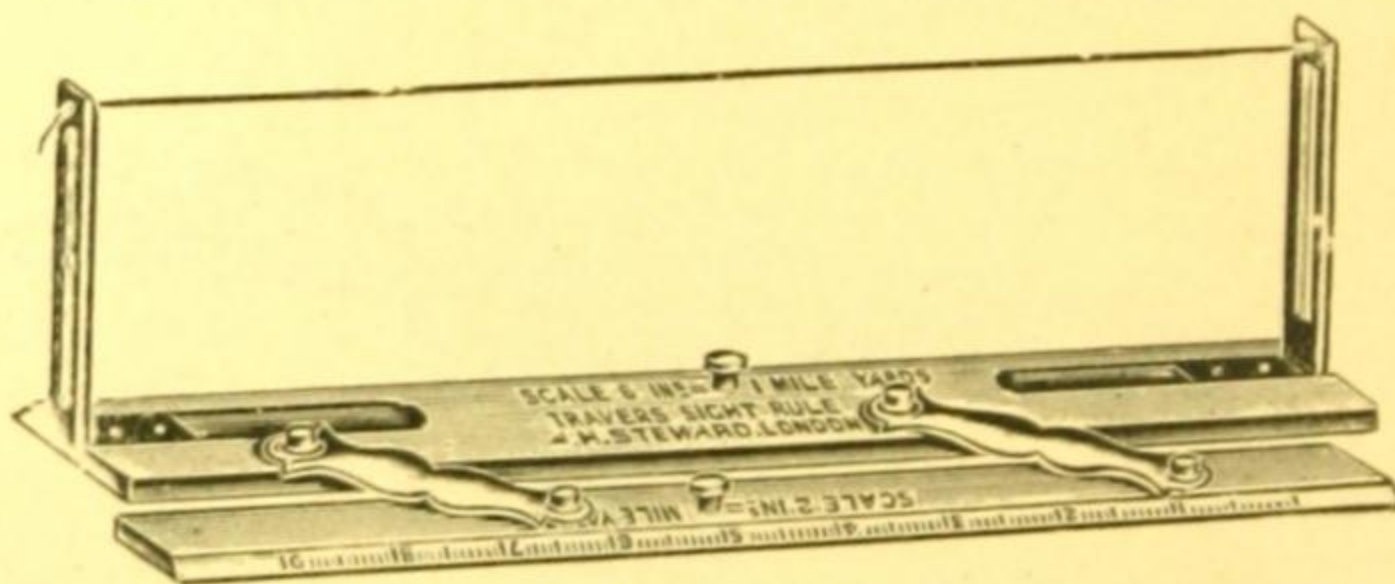

Fig. 36. "Travers" Sight Rule.
- SM 176.—**The "Travers" Sight Rule**, with adjustable parallel bar, doing away with the necessity of placing the ruling edge directly over the station on the paper before taking a sight and avoiding the use of pins. The ruler is 12 inches long and 2½ inches wide when closed, and is made of boxwood with bevelled edges, divided to 10ths of an inch and millimetres. The folding metal sights are 3½ inches high, and a hole is drilled in the top of each vane so that they can be connected by a fine cord as illustrated. This arrangement is very useful for taking rays in hilly country and on steep slopes..... Fig. 36      **£2 10 0**
- SM 177.—**18-inch Metal Alidade** with adjustable parallel bar similar in design to Fig. 36, but with a plain bevelled edge and without the cord attachment      **£2 15 0**